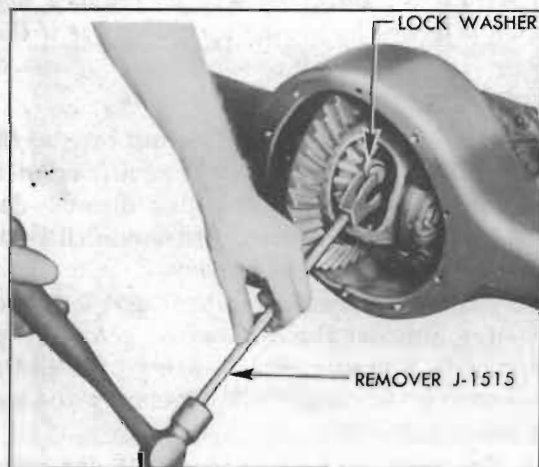

Figure 5-5—Removing Axle Shaft Lock Washer
5. Push axle shaft inward and drive the horseshoe-shaped lock washer from grooved inner end of axle shaft, using Remover J 1515. See figure 5-5.